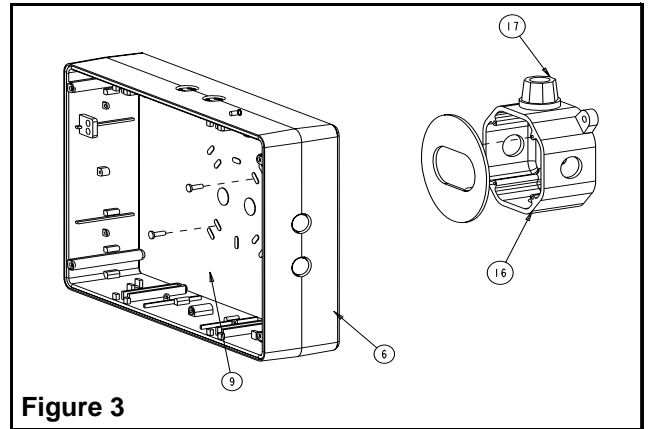

Figure 3
- b. Remove the backplate(9) from the packaging. Determine the proper knockouts to remove for mounting to the junction box (see fig.3).